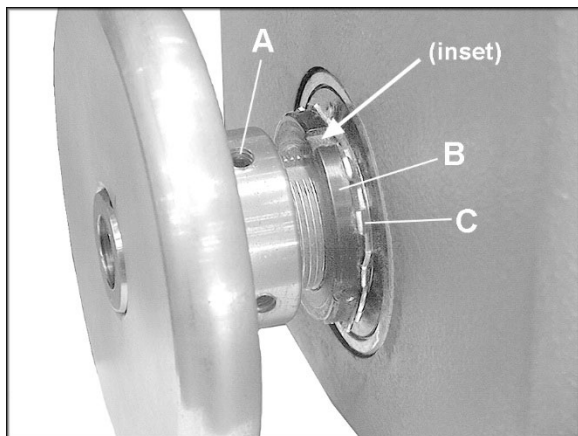

Figure 23
The spindle bearing has been set at the factory for general turning applications. There should be no "end play" or looseness along the spindle's axis. If any looseness should ever occur, it may be rectified by carefully tightening the bearing lock nut on the spindle, as follows. (See Figure 23).
1. Use a screwdriver to carefully bend back any tabs on the tabbed lock washer (C, Figure 23) that interfere with the insets on the bearing lock nut (B, Figure 23).
2. Place the end of a flat head screwdriver down against one of the insets of the bearing lock nut (B, Figure 23).
3. Tap the handle of the screwdriver with a mallet so that it turns the bearing lock nut (B, Figure 23) tighter in a clockwise direction. Rotate the bearing lock nut only about 1/16" at a time.
5. After the bearing lock nut (B, Figure 23) has been properly adjusted, *carefully* bend back into place any tabs on the tabbed lock washer (C, Figure 23).
4. Loosen the two set screws on the handwheel (A, Figure 23) with a hex wrench, and pull the handwheel off the headstock spindle.
5. Loosen and remove the bearing lock nut (B, Figure 23) and tabbed lock washer (C, Figure 23).
9. Slide the spindle back into place, install tabbed lock washer (C, Figure 23), and bearing lock nut (B, Figure 23). Check for any spindle play at this point (See "Checking Spindle Play").
10. Re-install the handwheel and tighten the set screws (A, Figure 23).
11. Align the new sheave (see sect. 9.10, *Sheave and Belt Alignment*) then tighten the two set screws (C, Figure 23) securely on the sheave.